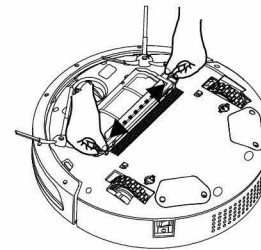

Fig. 1
- 1.As shown in fig.1,pull the “U” shaped clip on both sides of the cleaning bracket with both index fingers ,and remove the cleaning bracket.